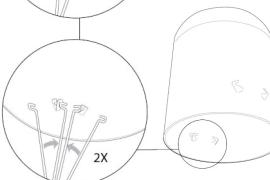

Figure 4 - Carefully insert module into recessed housing.
6. Carefully route wires into fixture and push module up flush to ceiling surface (as shown in Figure 4).